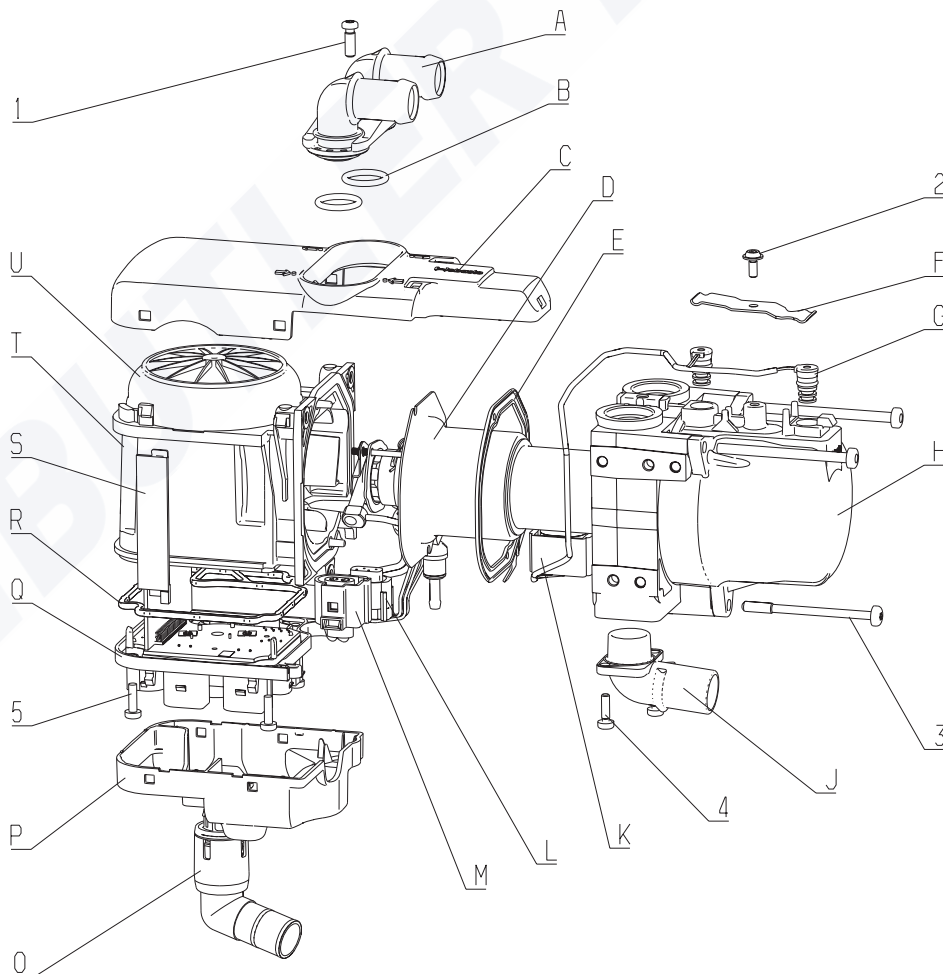
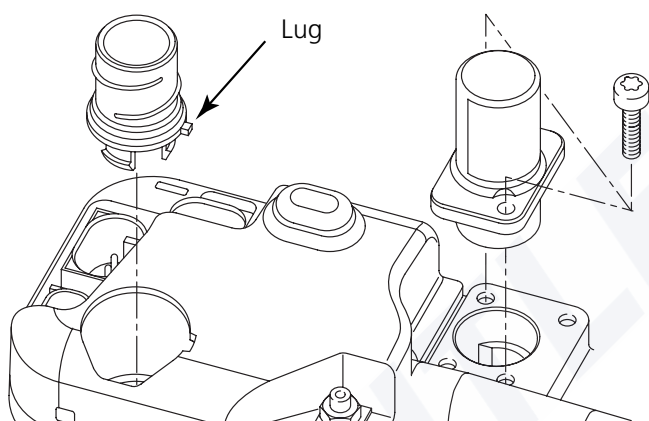

Fig. 901 Dismantling heater
Fig. 902 Installing air-intake and exhaust connection piece
1. Loosen screw (1, Fig. 901) and remove water connection piece unit (A) with O-rings (B).
2. Loosen screw (4) and remove exhaust connection piece (J) from heat exchanger (H). This work step is eliminated with a fixed exhaust connection piece.
3. Loosen heater cover (C) at 4 side detents on fan housing (T) with a screwdriver. Then remove heater cover (C) from heater toward front.
4. Remove cable cover (S) from fan housing (T).
5. Press air-intake connection piece (O) slightly to side and pull out of control unit (Q) in axial direction.
6. Release connector cover (P) on side facing away from fuel connection piece at side detents with a screwdriver and take off heater.
7. Loosen detent of connector (K, L, M) and pull connector off control unit (Q).
8. Loosen screws (3) and pull heat exchanger (H) off fan housing (T) in axial direction of screw fitting.
9. For information on removing the burner (D), see section 9.2.5.
10. For information on removing temperature sensor and overheating sensor (G), see section 9.2.8.
1. For information on installing new temperature sensors (G, Fig. 901), see section 9.2.9.
2. For information on installing burner (D), see section 9.2.7.
3. Clean heat exchanger (H) inside and outside and place on fan. Tighten screws (3) with  $7 \pm 0.7$  Nm and do not cut new thread if possible when doing so (i.e. turn screw into existing thread).
5. Place connector cover (P) on control unit (Q) and engage with light pressure.
6. Insert air-intake connection piece (O) into control unit (Q). In the process, the lug of the connection piece (O) must be guided into the opening provided (facing in direction of fuel connection piece). See Fig. 902.
It is not permissible to remove parts of the fan housing (T, Fig. 901)!
3. Loosen screw (2, Fig. 901).
4. Remove retaining spring (F) and pull sensors out of heat exchanger (sensors are not accessible from inside). Do not pull on plastic head or cable when doing so.